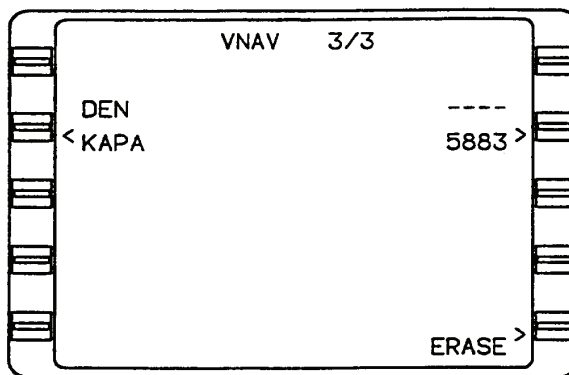

Figure 3A-35. VNAV 3/3 Page
h. VNAV Data 1/1 Page. Refer to Figure 3A-36.